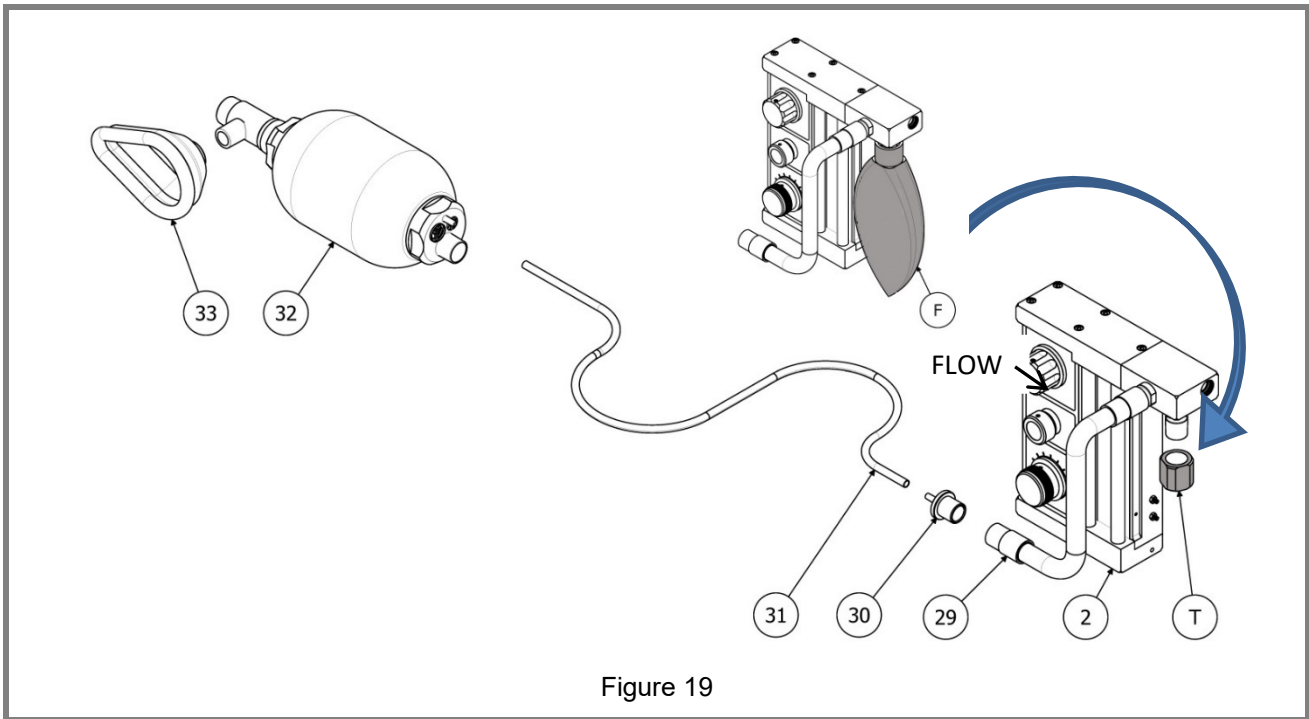

Figure 19
*(KIT Art. 1504/A Not included – see figure 19)